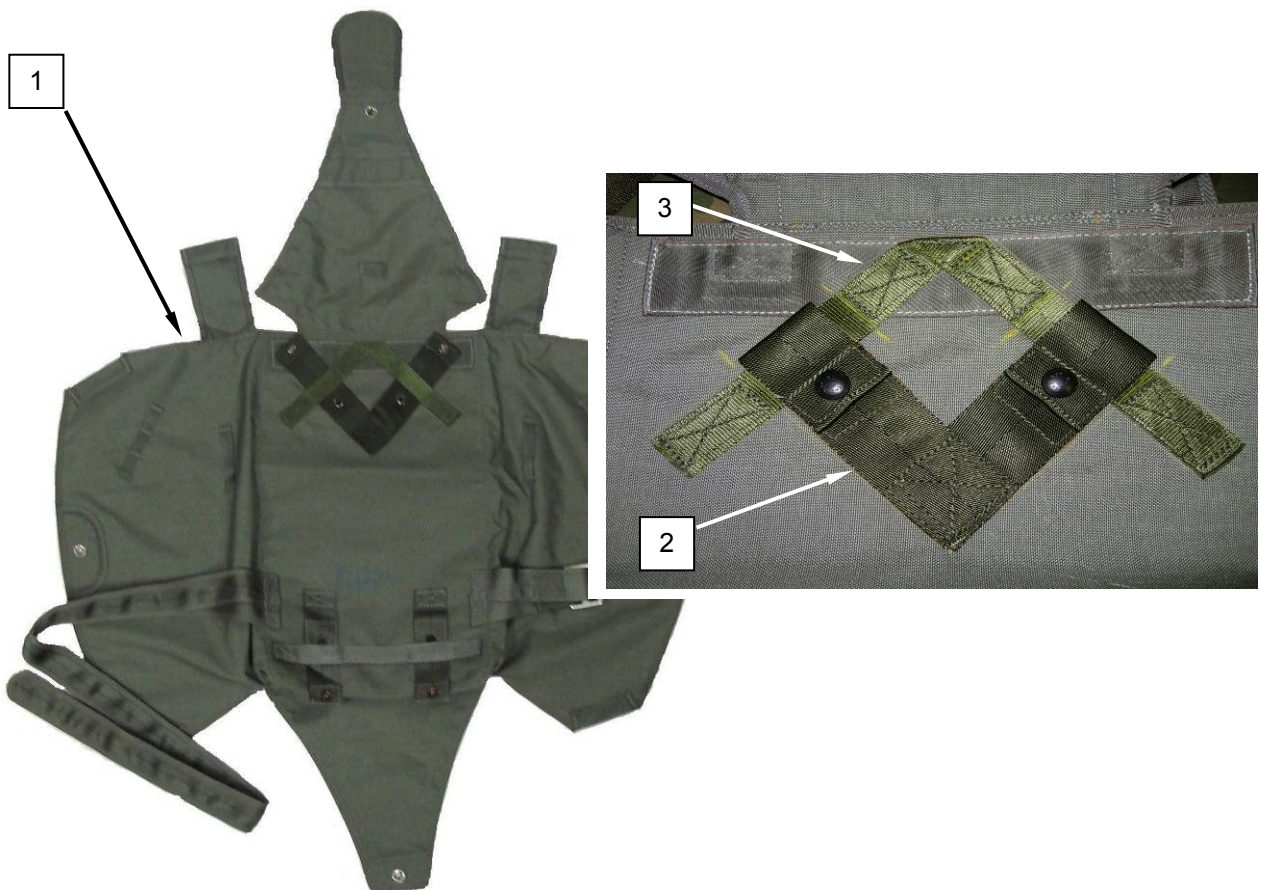

Figure 2. Main Pack Tray Assembly.
- b. **Main Pack Tray.** Left and right adjustment straps have been removed from the upper portion of the pack tray assembly (Figure 2, Item 1). Diagonal back strap retainer (Figure 2, Item 2) and keeper (Figure 2, Item 3) have been installed onto the upper portion of the pack tray.